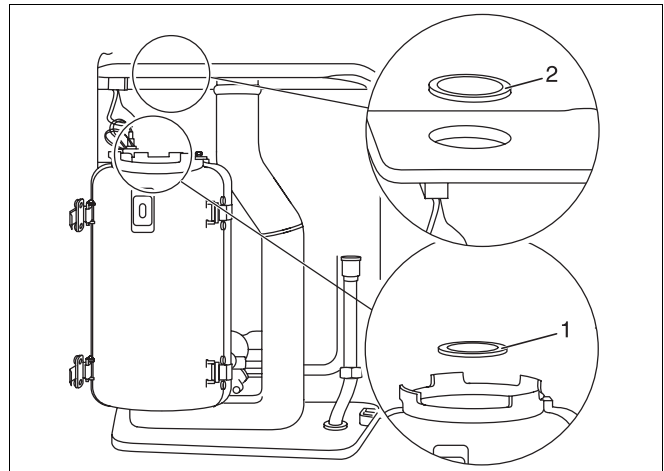
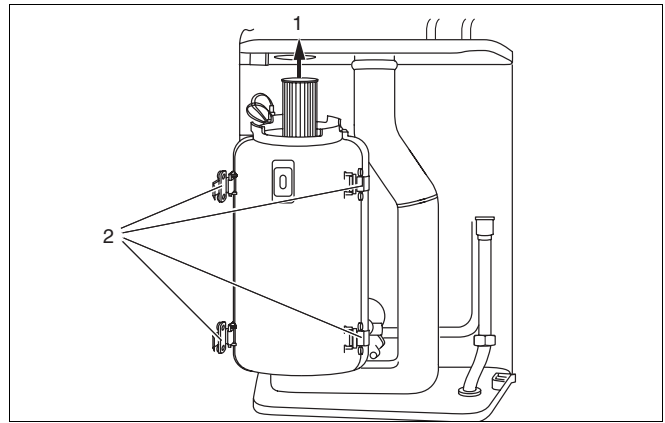

Fig. 39 Remove burner gasket and rubber seal
Fig. 43 Remove burner and release retaining clips
- Remove burner gasket (fig. 39, item 1).
- Remove rubber seal in heat exchanger by pushing upwards from inside (fig. 39, item 2).
- Remove rubber seal in combustion chamber from top (fig. 39, item 2, page 41).
- Remove burner and burner gasket (fig. 39, item 1, page 41) by pulling upwards through the opening (fig. 43, item 1).
- Remove the front of the heat exchanger by releasing the four retaining clips (fig. 43, item 2).